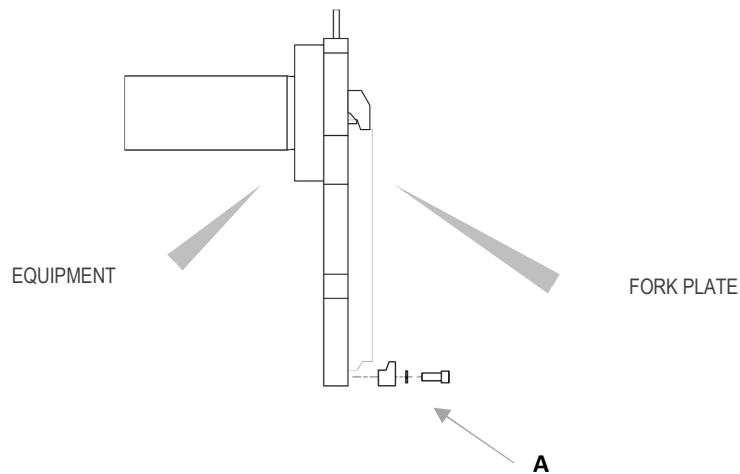

Figure 4
- Tighten the 2 lower couplings **G** (detail **A** in Figure 4) so that the body of the couplings remains coupled to the lower fork carriage plate **P** (with max. 1.5mm clearance, see detail), tightening with the torque indicated in Table 2.